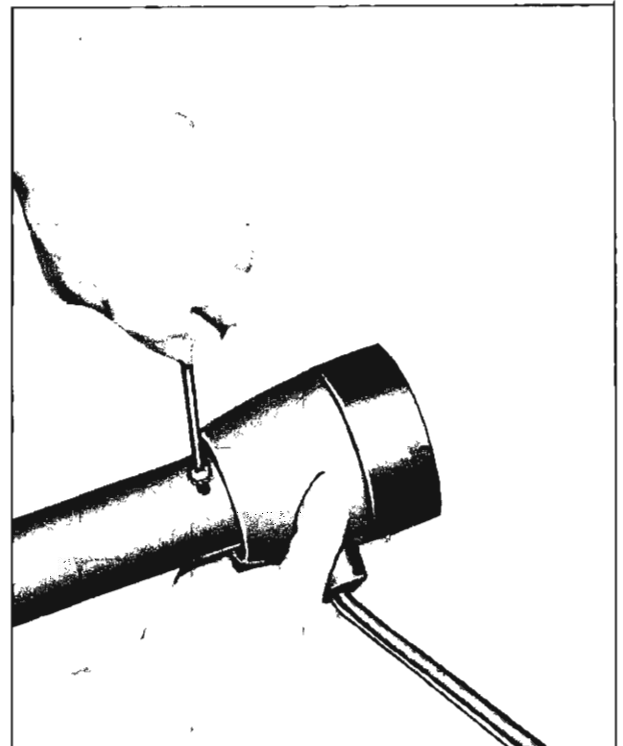
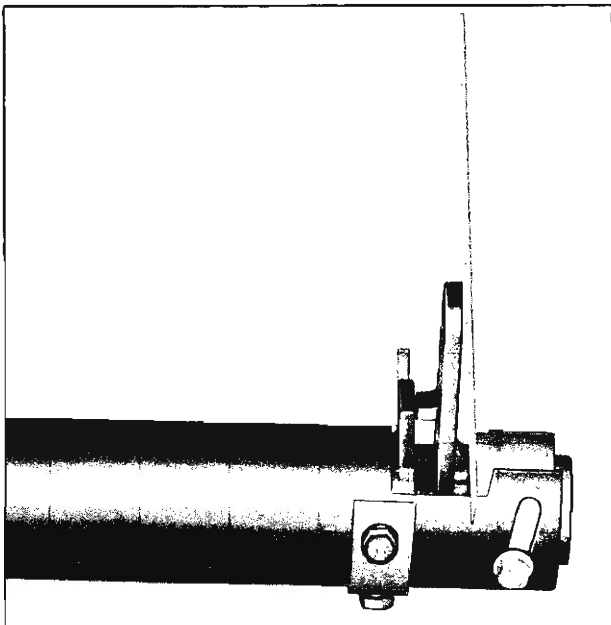

Fig. 33—Adjusting Upper Ring
Fig. 38—Checking Lower Adjusting Ring Clearance
15. Move upper adjusting ring in slot until tight and back off only enough to allow lever support housing to rotate freely. This can be done by rotating adjusting ring and screws (fig. 33). (Counterclockwise motion as viewed from top of mast jacket assembly will decrease end play. Clockwise motion will increase end play.)
15. Rotate upper adjusting ring until tight and back-off only enough to allow lever support housing to rotate freely. This can be done by rotating adjusting ring and screw (fig. 33). (Counterclockwise motion as viewed from top of mast jacket assembly will decrease end play. Clockwise rotation will increase end play.)
16. Rotate lower selector (detent) plate as necessary to align pointer with transmission quadrant (at upper end, align in Drive (D) position). Tighten three screws.
17. Position tang on shift lever on ear of detent plate, rotate adjusting ring until there is .060" end play between adjusting ring and shift lever as shown in Figure 38.
18. Install safety switch and position so that transmission will only start in Park (P) or Neutral (N).